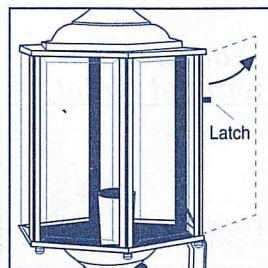

Figure 4
- For fixtures with a hinged door, lift latch upwards to open door. Insert bulb(s) and re-latch the door (see figure 4).